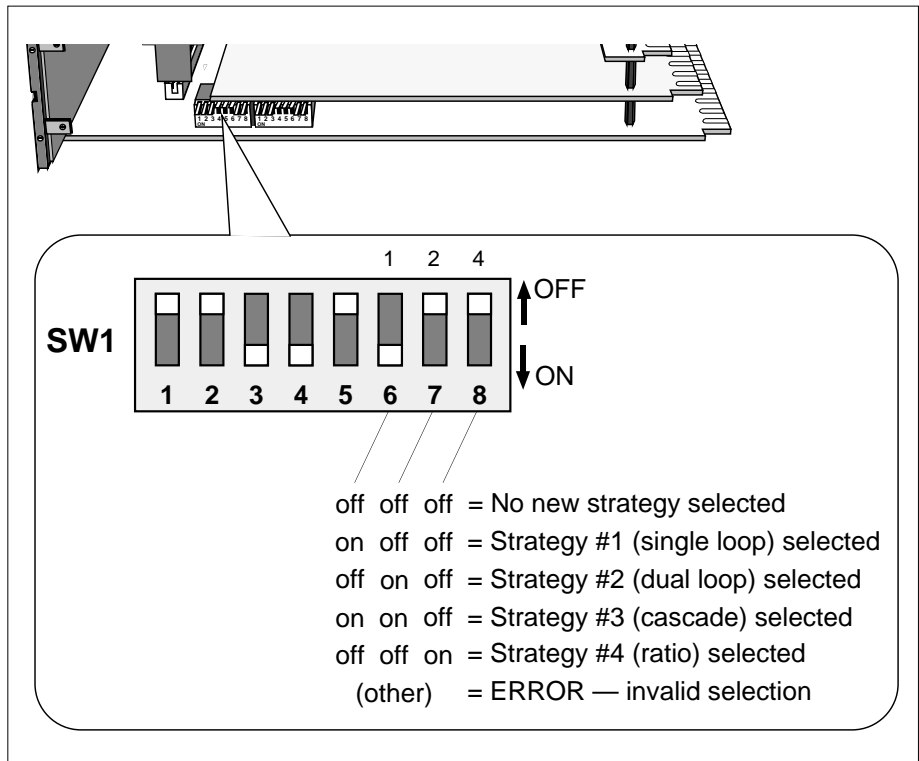

Figure 5-1 SW1 switch settings for strategy selection
When you select strategy #*n* via the motherboard DIL switches (Figure 5-1 reminds you how to do this) your custom strategy will load and run. The method works because the T640 does not attempt to unpack (decompress) the dummy .FF*n* file provided the corresponding .DBF file already exists in EEPROM.
- 1 Withdraw the T640 from its sleeve (taking the necessary anti-static precautions — see Chapter 2) and set switches 6, 7, and 8 of switchbank 1 to the strategy number required. (Figure 5-1 reminds you of their location and how to set them.)